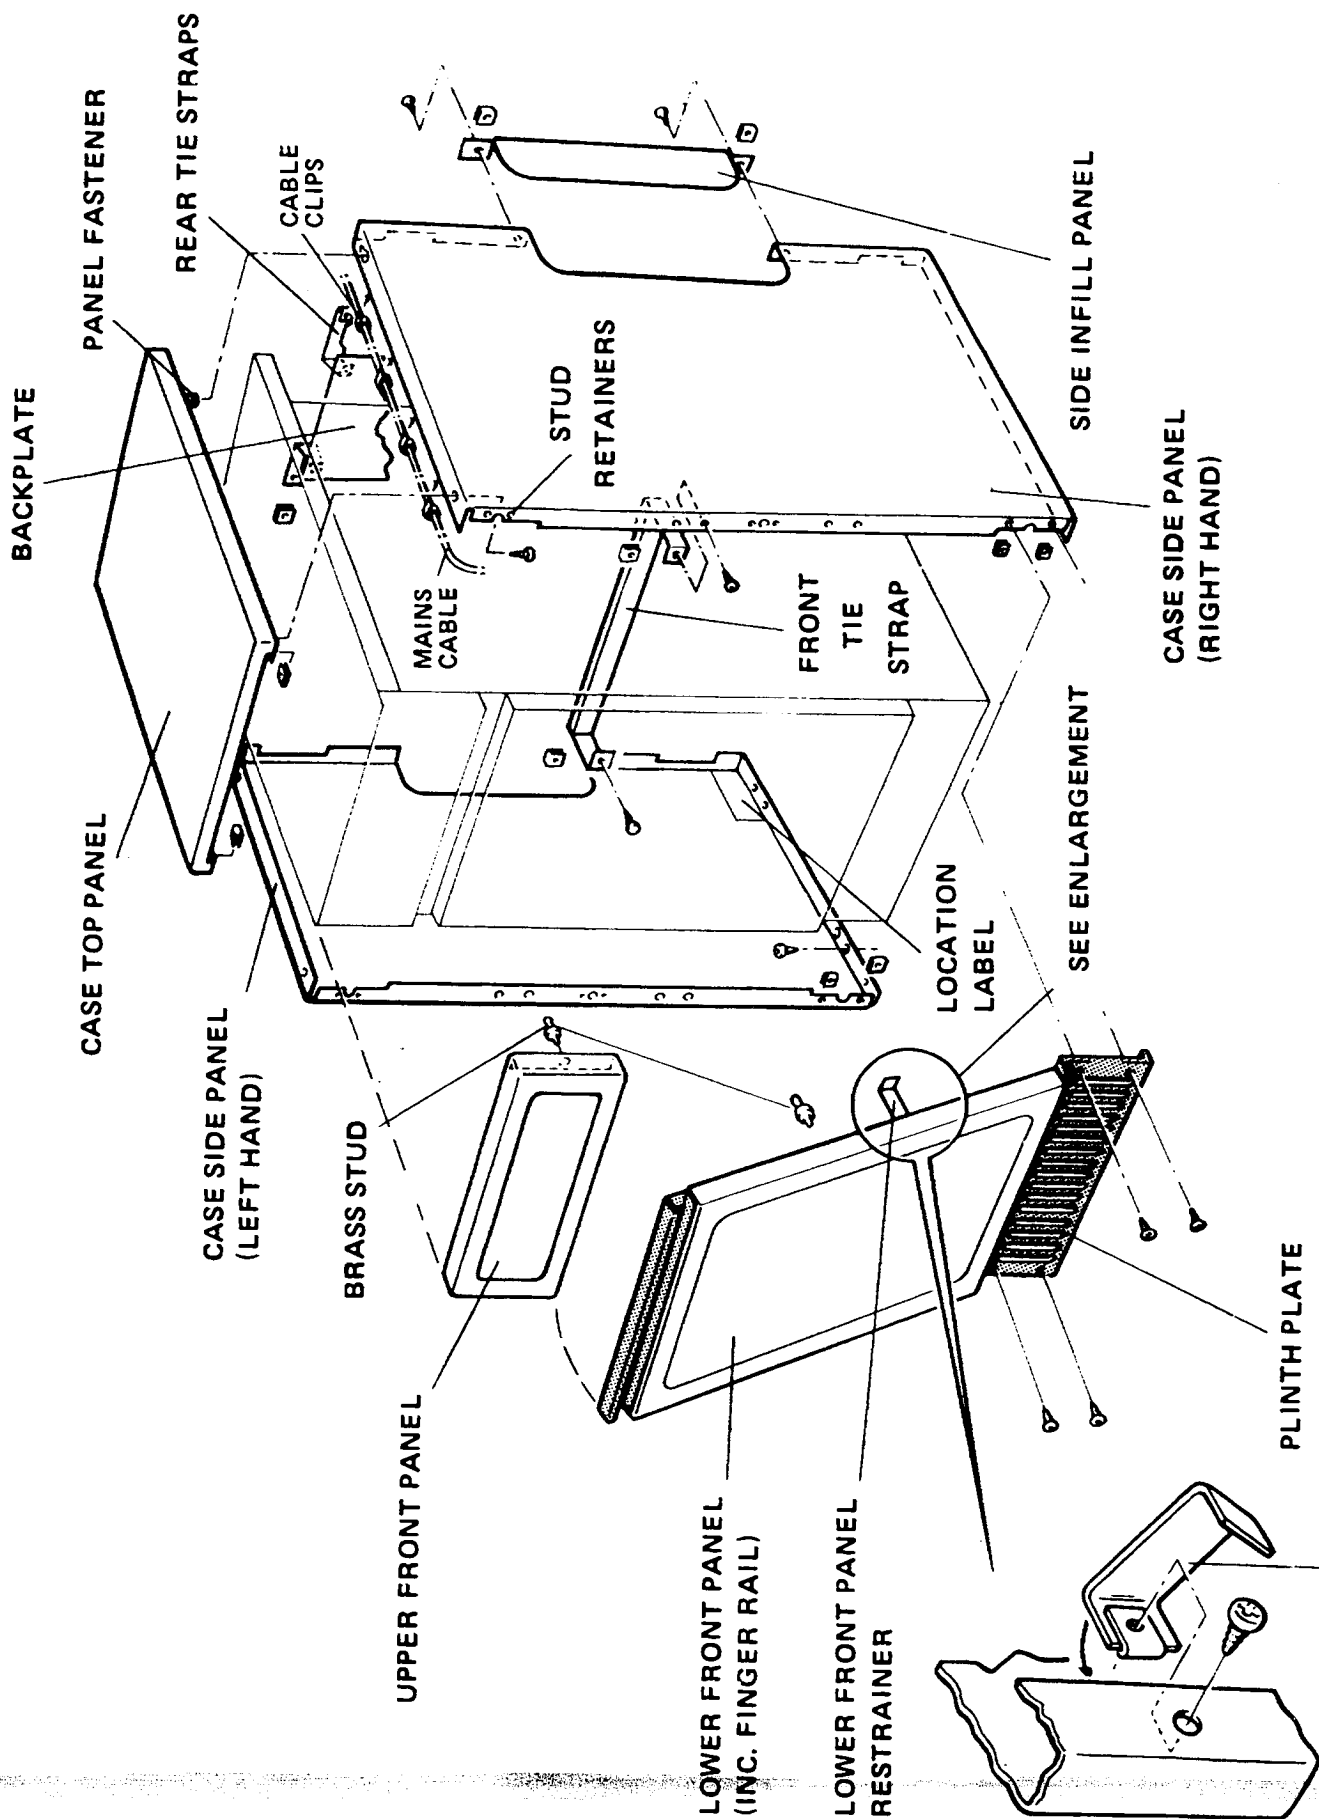

FIG. 13
12. CASING – See Fig. 13
- C. Fit the captive nuts supplied in the Fastener Pack to the hole positions shown in Fig 13 (8 off, including 2 for the side infill panel if fitted). The 4 smaller captive nuts and screws contained in the additional bag should be fitted for the plinth.
- P. Fit the universal case restraining brackets (two RS50B, one RS40) and their captive nuts to the holes beneath the bank of three holes in the flange of the lower front panel (See Fig.13).